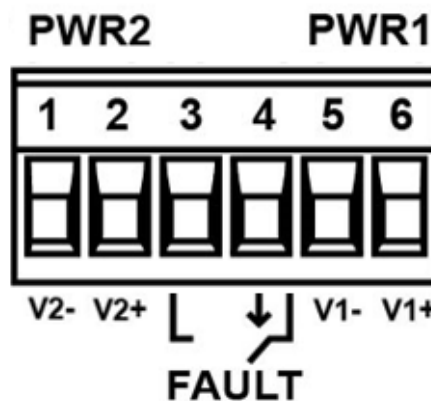

Figure 2.4: Power Terminal Block
Step 1 Insert the positive and negative wires into the PWR1 (V1+, V1-) and PWR2 (V2+, V2-) contacts on the terminal block connector as shown below in Figure 2.4.